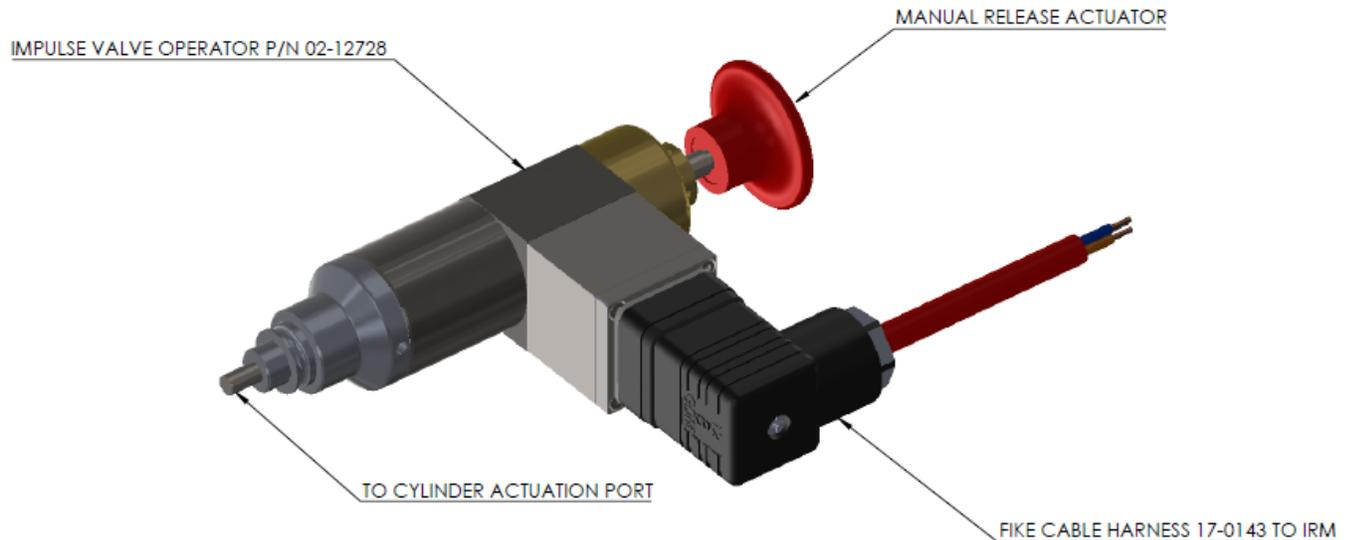

Figure 7 – Impulse Valve Operator
2. Connect the Impulse Valve Operator (Figure 7) to the suppression container as detailed on the Impulse Valve Operator component sheet, P/N 06-492.